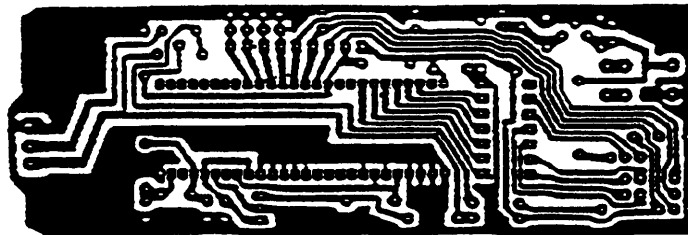

Figure 16
2. Locate Central Processing Board. (Figure 16)